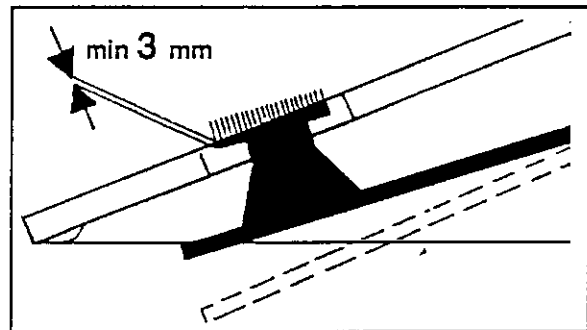

fig. 4-37
- the pin head weight wears down to 3 mm, e.g. due to a distorted leaf spring (fig. 4-37).